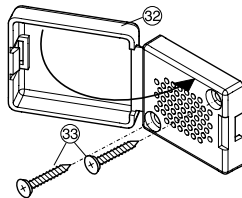

Figure 17
- If the upper cabinet spacer (**Fig. 7, 5**) **does not** interfere with the top kitchen cabinet door hinge, install it in the location shown in **Figure 7** using the screws provided (**Fig. 17, 33**). Make sure the front edge of the spacer is recessed 1/8 in. (3 mm) from the edge of the kitchen cabinet wall. The plastic hinge of the cabinet spacer should face the rear wall of the cabinet.
- All 24 in. (609.6 mm) wide cabinets require the lower cabinet spacer (Fig. 7, 6).** Install it in the location shown in **Figure 7** using the screws provided (**Fig. 17, 33**). Make sure the front edge of the spacer is recessed 1/8 in. (3 mm) from the edge of the kitchen cabinet wall. The plastic hinge of the cabinet spacer should face the rear wall of the cabinet.